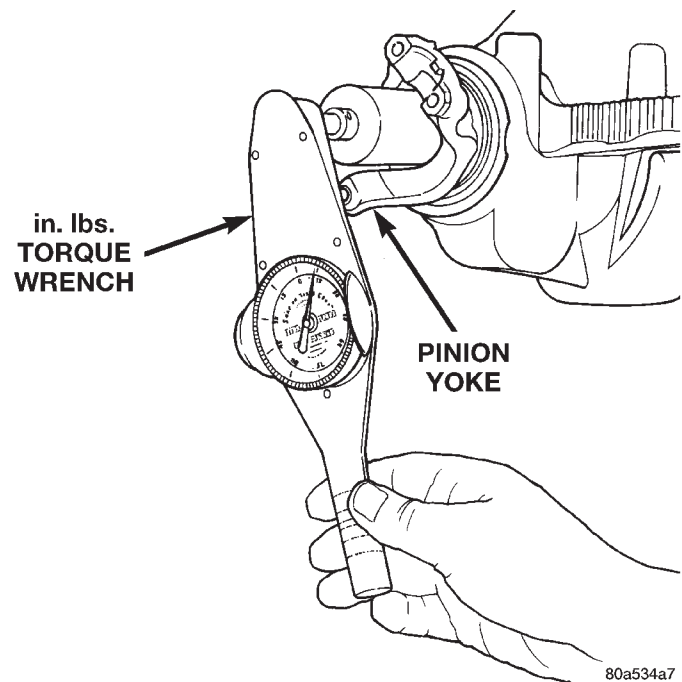

Fig. 50 Check Pinion Gear Rotation Torque
(11) Slowly tighten the nut in 6.8 N·m (5 ft. lb.) increments until the rotating torque is achieved. Measure the rotating torque frequently to avoid over crushing the collapsible spacer (Fig. 50).
(12) Check bearing rotating torque with an inch pound torque wrench (Fig. 50). The torque necessary to rotate the pinion gear should be: